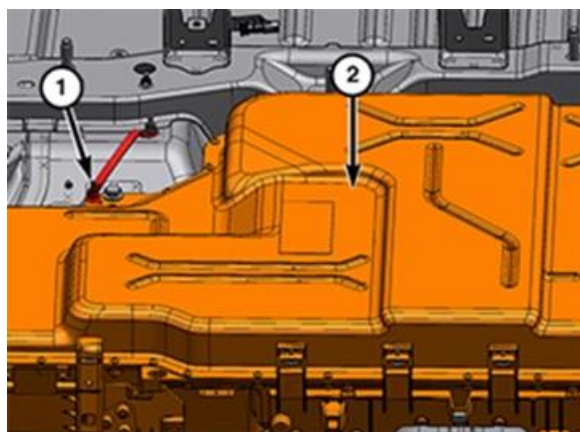

Figure 23 – HV Battery Fastener and Ground Cable
37. Remove the fastener (1) and the chassis ground cable from the HV battery (2) (Figure 23).
50. Install the chassis ground cable to the HV battery ground stud (1) and tighten to 9N·m (80 in. lbs.) (Figure 23).